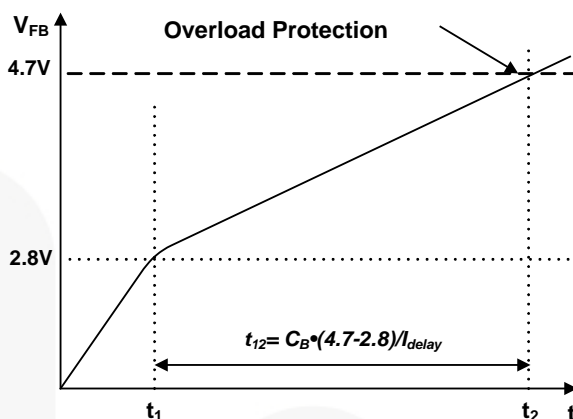

Figure 17. Overload Protection
4.1 Overload Protection (OLP): Overload is defined as the load current exceeding its normal level due to an unexpected event. In this situation, the protection circuit should trigger to protect the SMPS. However, even when the SMPS is in the normal operation, the overload protection circuit can be triggered during the load transition. To avoid this undesired operation, the overload protection circuit is designed to trigger only after a specified time to determine whether it is a transient situation or a true overload situation. Because of the pulse-by-pulse current limit capability, the maximum peak current through the SenseFET is limited and, therefore, the maximum input power is restricted with a given input voltage. If the output consumes more than this maximum power, the output voltage (V_o) decreases below the set voltage. This reduces the current through the opto-coupler LED, which also reduces the opto-coupler transistor current, increasing the feedback voltage (V_{FB}). If V_{FB} exceeds 2.8 V, D1 is blocked and the 5 μ A current source starts to charge C_B slowly up. In this condition, V_{FB} continues increasing until it reaches 4.7 V, when the switching operation is terminated, as shown in Figure 17. The delay time for shutdown is the time required to charge C_B from 2.8 V to 4.7 V with 5 μ A. A 20 ~ 50 ms delay time is typical for